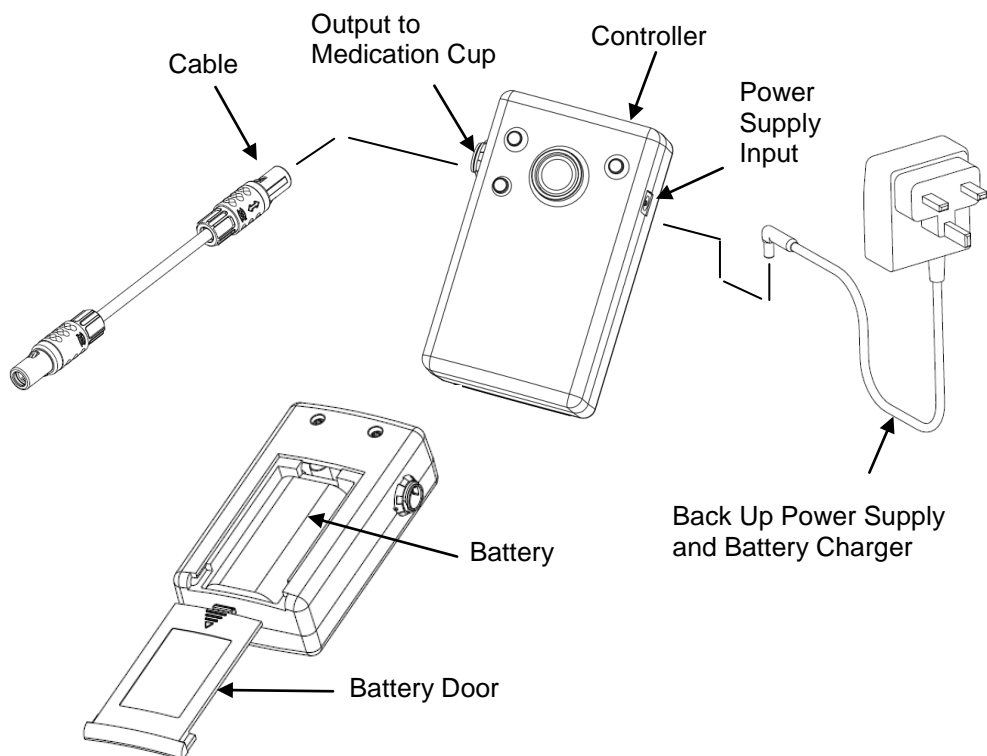

*Figure 2: Flexineb™ Mask*
- Check the Inlet Valve is moving freely, Fig. 2
- Check the Exit Valve is moving freely, Fig. 2
- Open the vents at the bottom of the mask by rotating the exit valve housing; Fig. 2
- When the horse is familiar with the device close the vents in the bottom of the mask by rotating the exit valve housing, Fig. 2. This activates the Inlet and Exit Valves
- Close the vents at the bottom of the mask, Fig. 2
The horse becomes uneasy during use	<p>Some horses may reject the smell or taste of some medications and become uneasy during use.</p> <p>Check that the Inlet Valve and Exit Valve are functioning correctly (Fig. 2) and the horse is getting adequate air intake.</p>